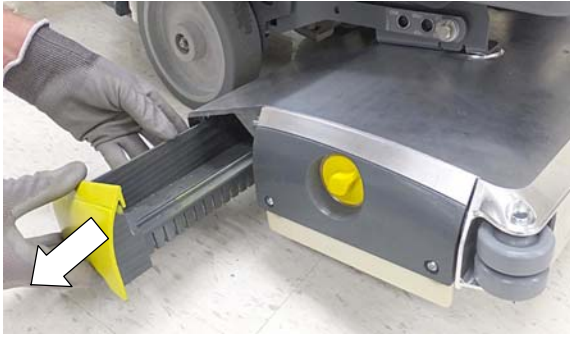

FIG. 17
2. Remove the debris tray by sliding it out from the scrub head (Figure 17).